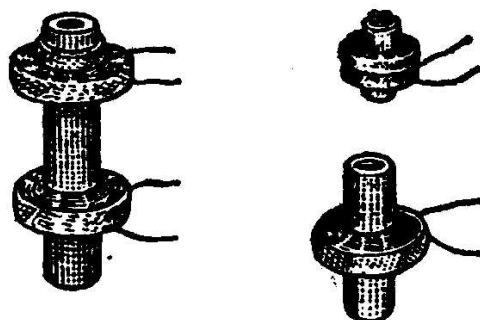

FIG. 16. Typical replacement i.f. windings.
► If you can't get a replacement i.f. transformer which will fit on the chassis, install replacement coils—preferably exact duplicates. Again, your order must identify the receiver by make and model number and also identify the i.f. transformer. If an exact duplicate is not available, order a replacement designed to operate at the intermediate frequency of the receiver and equal or close to the original in physical dimensions. Typical replacements are shown in Fig. 16.